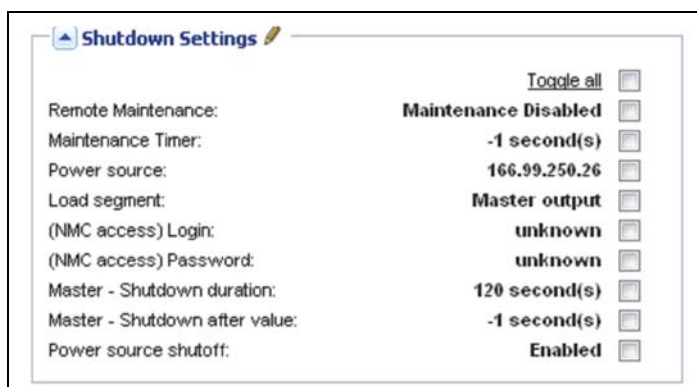

Figure 166. Shutdown Settings for VM Host with Eaton IPM
- 2. In the Shutdown Settings panel on the right side of the page, select the applicable checkboxes to configure the required parameters (see Figure 166 and Table 8).